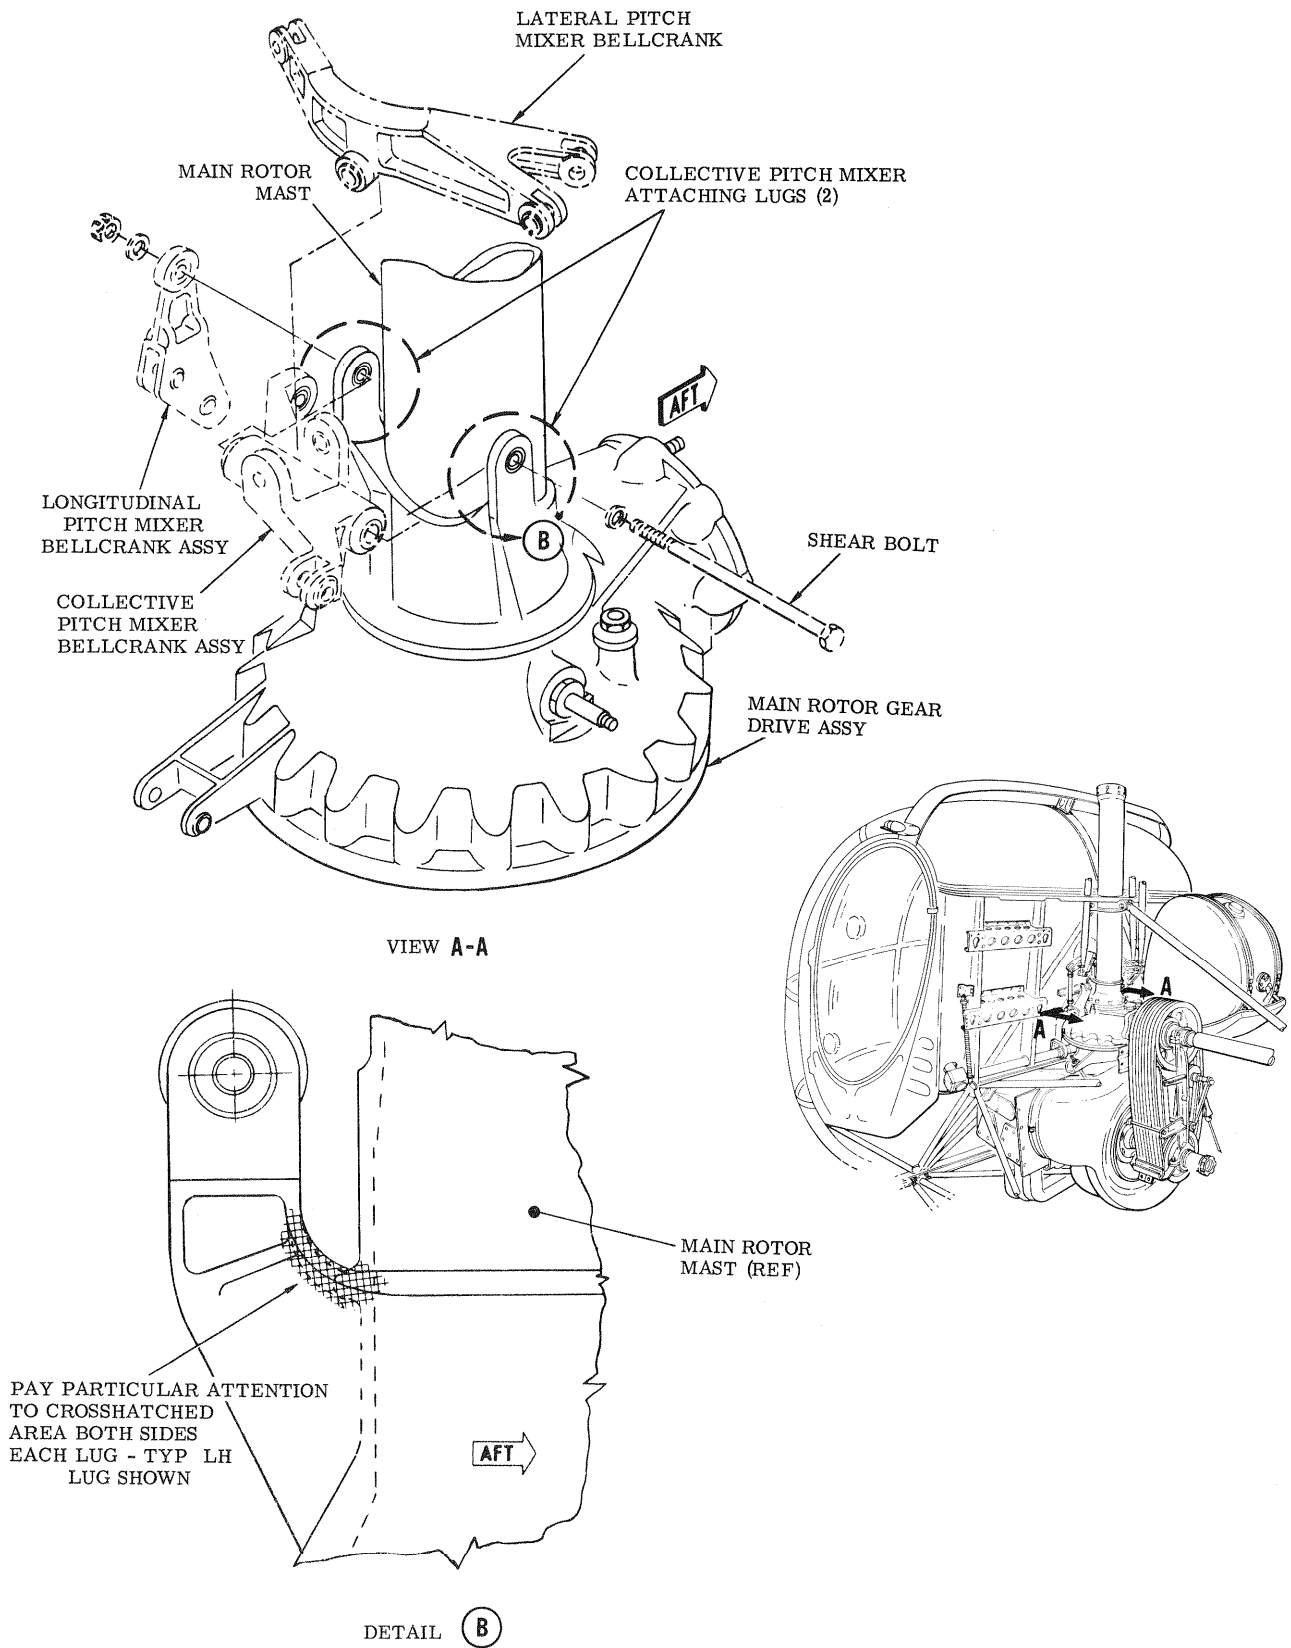

FIGURE 1. INSPECTION-MAIN ROTOR MAST ASSEMBLY.
- a. Perform dye penetrant inspection for cracks in two main rotor mast lugs used for attaching collective pitch mixer bellcrank. Inspect 100% area of lugs, including fillets to main rotor mast. (Refer to Figure 1)